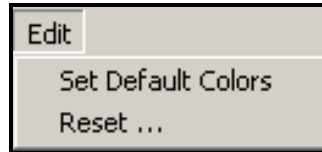

Figure 48. Util | Convert Report Dialog | Format Dialog | Edit Menu
The **Edit** menu on the **Format** dialog has two (2) selections as shown in Figure 48, which are discussed below.